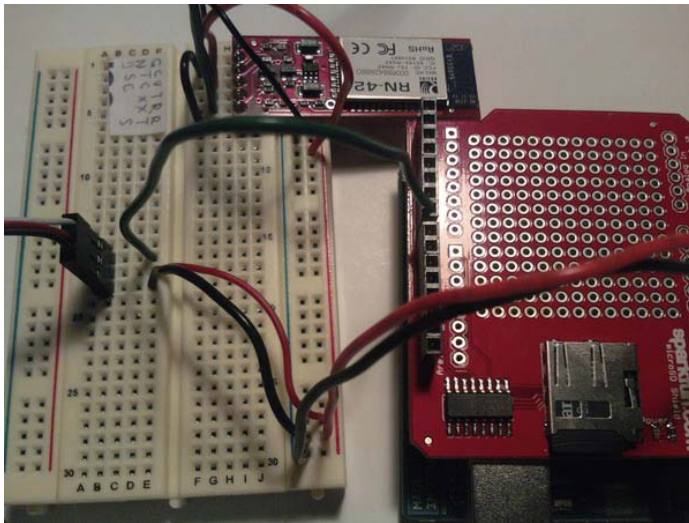

Figure 8-9. Configuration of the ultrasonic sensor
12. Connect digital pin 7 on the Arduino to the signal pin on the ultrasonic sensor. Figure 8-9 illustrates this process.